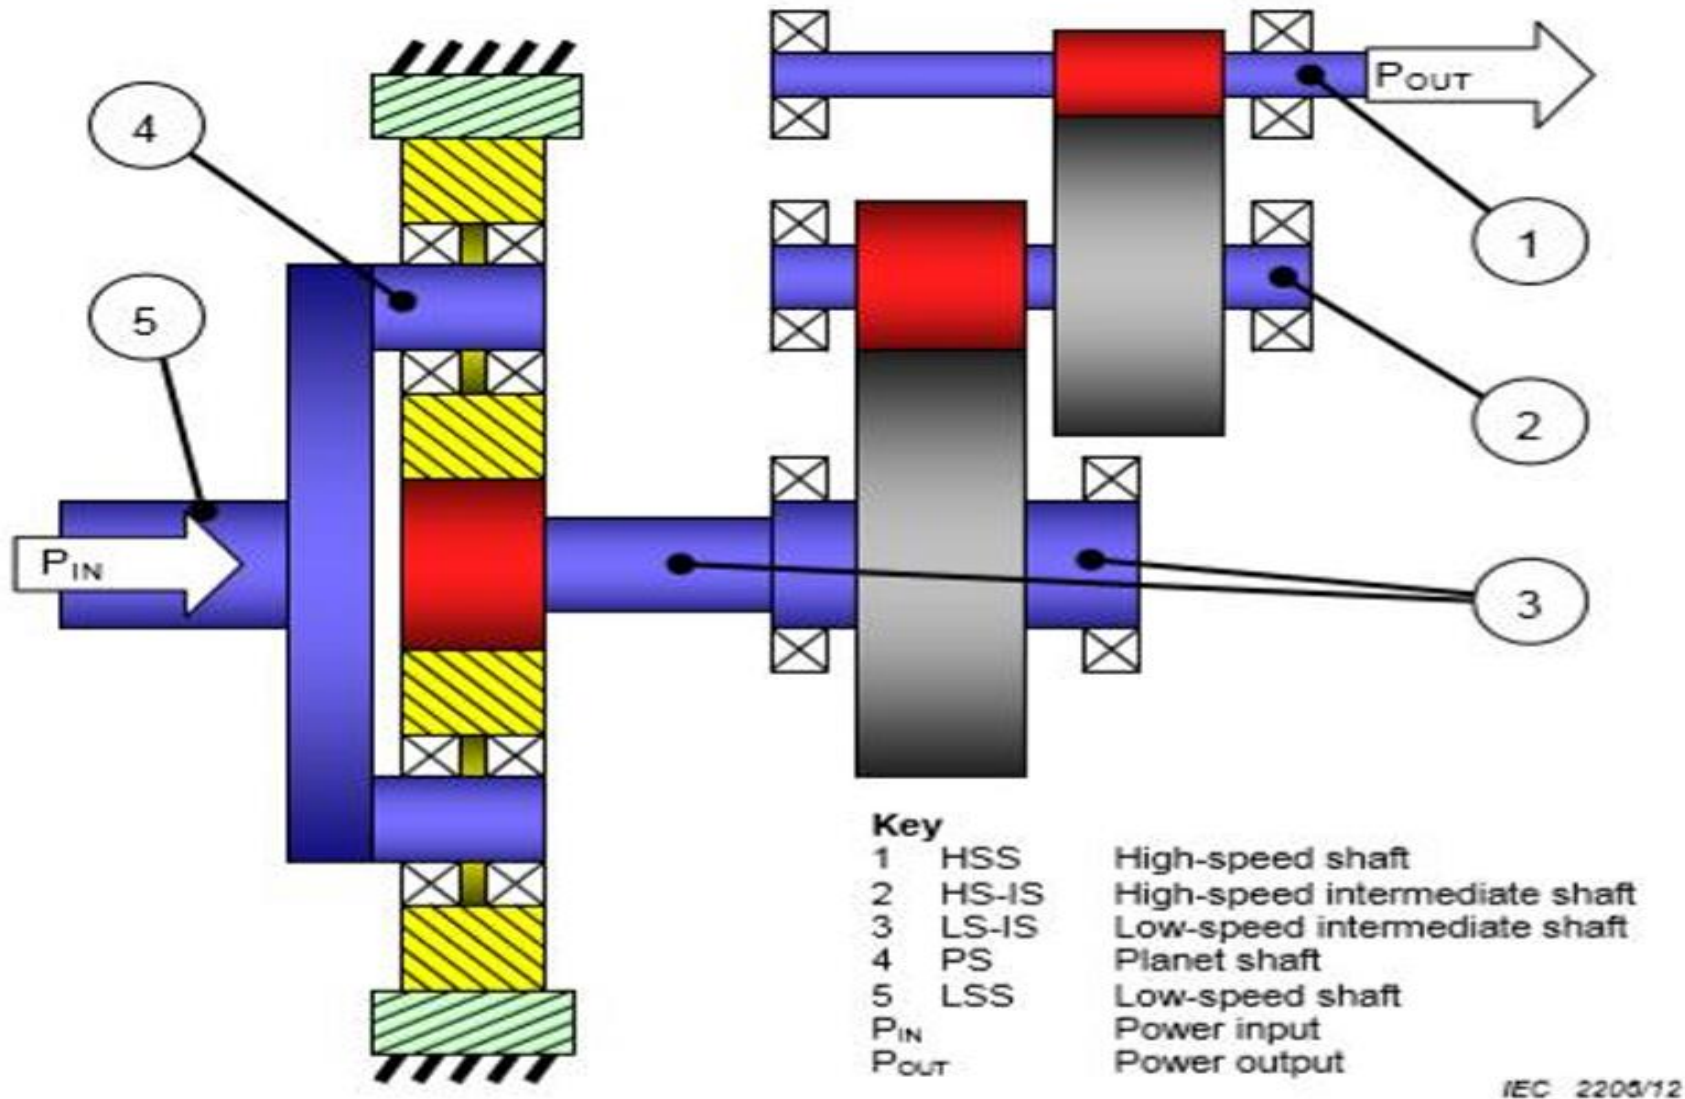

Figure 7. Gear Transmission box: Source: IEC 61400-4
- The annulus, with its teeth on the inside, is an internal gear; the sun and planets are external gears as given by Fig.7.